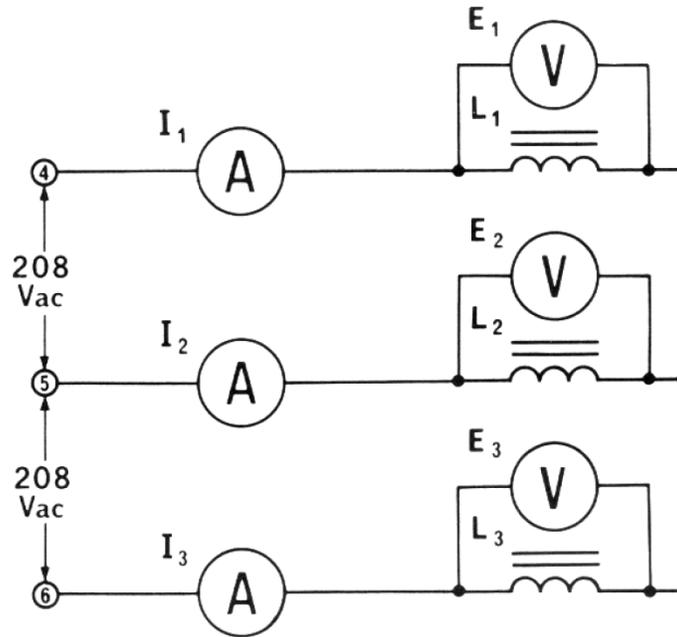

Figure 02-5
- 8) Construct the “Y”-connected load as indicated in Figure 02-5: